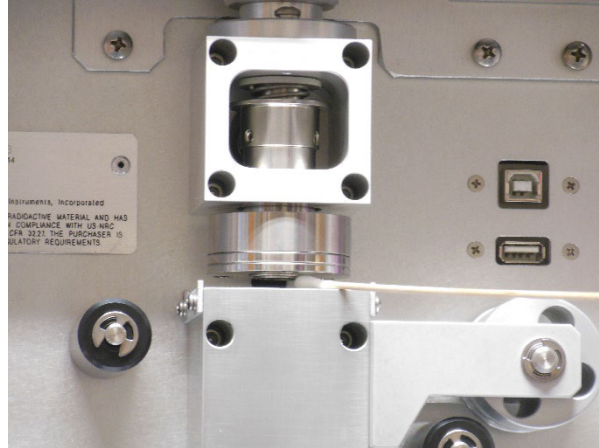

Figure 5-7 Cleaning the E-BAM Nozzle and Vane with a Cotton-Tipped Applicator
4. Thoroughly clean the nozzle sealing surface and the vane crosshairs with a cotton-tipped applicator and isopropyl alcohol (see Figure 5-7). Any hardened deposits may have to be carefully scraped off with the wooden end of the applicator.